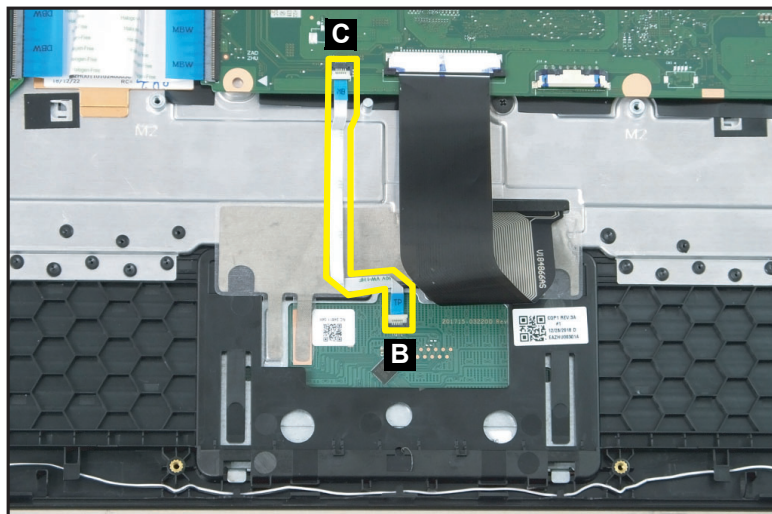

Figure 1-19. Touchpad Module Removal
2. Release the latch and disconnect the touchpad FFC from the touchpad module connector (B) (Figure 1-19).
3. Release the latch and disconnect the touchpad FFC from the mainboard connector (C) (Figure 1-19).